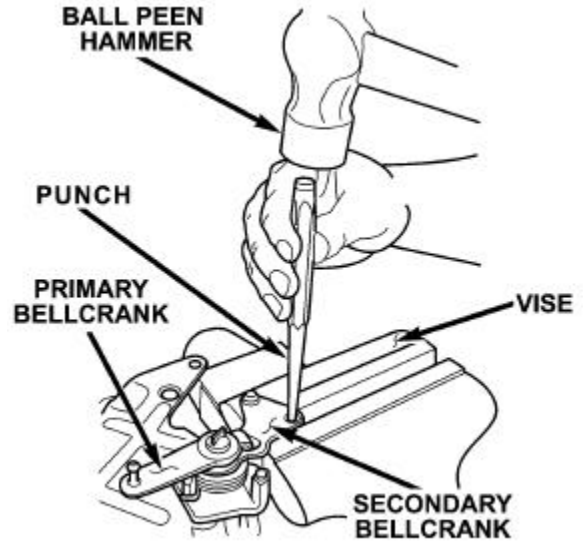

Figure 6
24. Using a ball peen hammer and a small punch, drive the throttle rod ball stud from the secondary bellcrank (Figure 6).